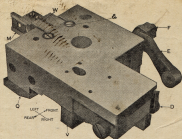

FIGURE 3.
19. Before taking off any part back off CLAMP SCREW (F) two or three turns, using LEVER (E) to turn it.
20. Remove, in the order here given, SHIELD (G), MATRIX-CLAMP SCREW (S); MATRIX CLAMP (T); MATRIX (U); upper MOLD-BLADE SHOE (N); MOLD-BLADE STOP (L); MOLD BLADE (M) (CAUTION: Do not drop VENT PUSHER); and two TIE BARS (Q and V).
21. Take out one SCREW (& Fig. 3) and its WASHER from the bottom of the MOLD. Then from the front remove five SCREWS (I) that hold the front TYPE BLOCKS